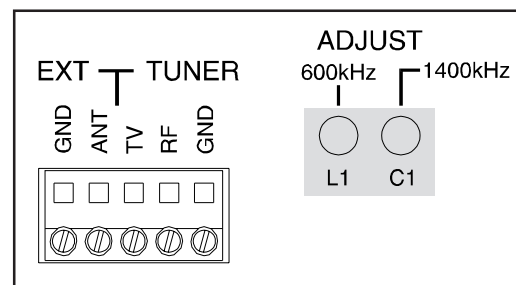

Figure 21
1. Tune to a weak AM station near 600kHz on the AM band. Using a small **NON - METALLIC** screwdriver, adjust the 600kHz trans-former L1 for maximum signal strength. Refer to Figure 21.